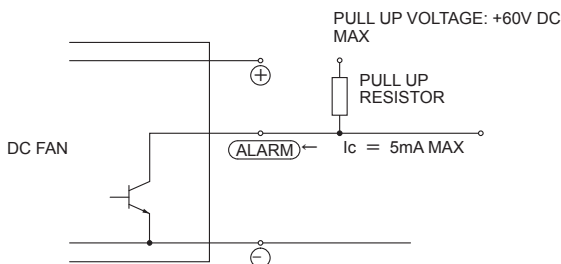

Fig.4.1 Fan alarm connection example
■ Individual fan has built-in alarm function detecting the operation. Fan alarm specifications are shown in Table4.1. A connection for example is shown in Fig.4.1.